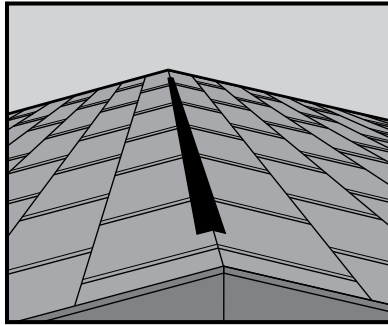

Fig. 2
- 3) Expose the vent slot opening by removing the decking that was just cut between the rake edges. See Figure 2.